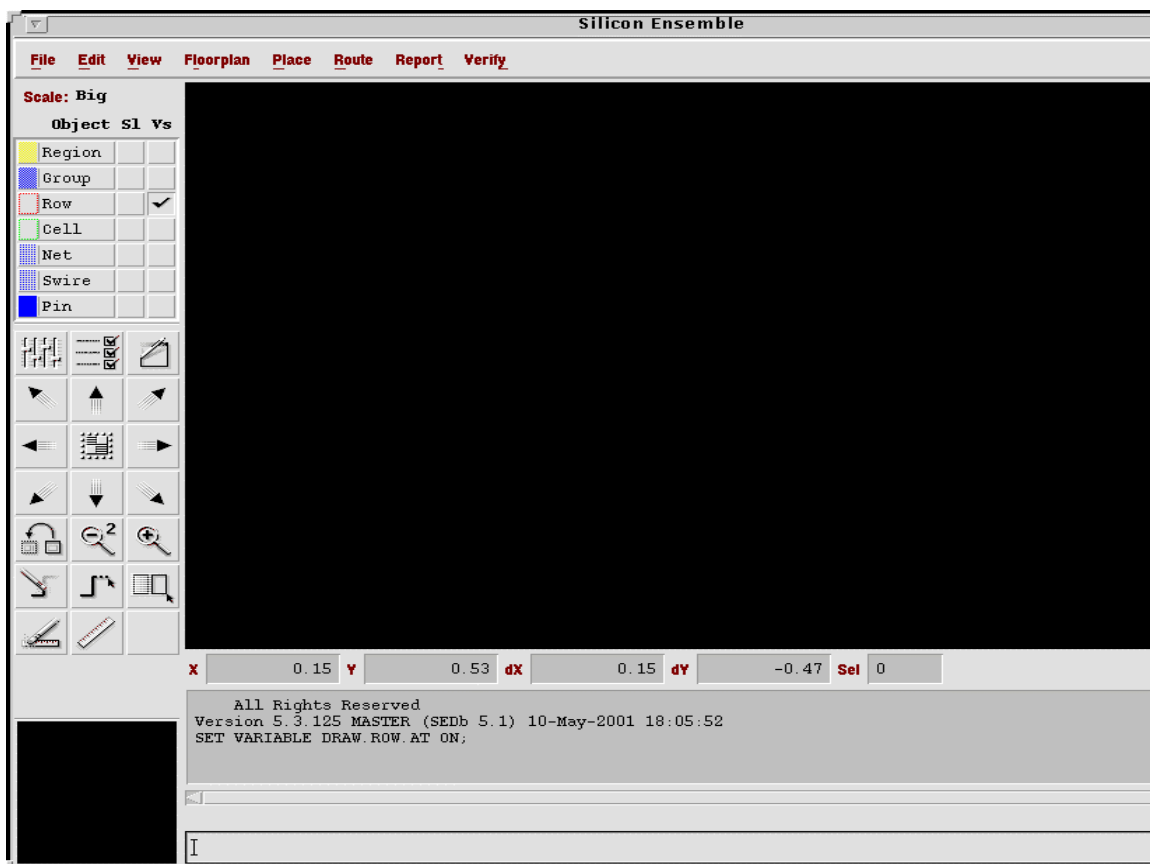

Fig 1: Silicon Ensemble
Here 500 is the memory allocated for silicon ensemble. The “Silicon Ensemble” window opens as shown in Fig 1.
1. In Fig 1 select **File** -> **Import** -> **LEF**.
1. In Fig 1 select **File -> Import -> Verilog**.